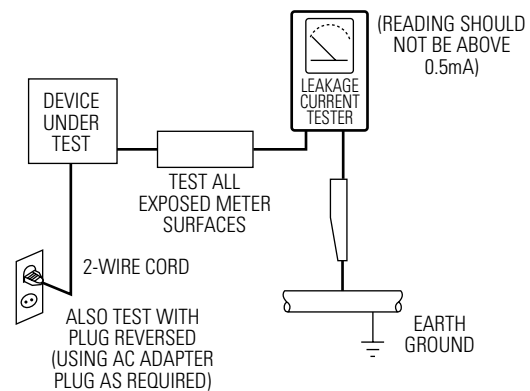

Fig. 1-1 AC Leakage Test
(1) Be sure that no built-in protective devices are defective or have been defeated during servicing. (1) Protective shields are provided to protect both the technician and the customer. Correctly replace all missing protective shields, including any remove for servicing convenience. (2) When reinstalling the chassis and/or other assembly in the cabinet, be sure to put back in place all protective devices, including, but not limited to, nonmetallic control knobs, insulating fish papers, adjustment and compartment covers/shields, and isolation resistor/capacitor networks. Do not operate this instrument or permit it to be operated without all protective devices correctly installed and functioning.
(2) Be sure that there are no cabinet openings through which adults or children might be able to insert their fingers and contact a hazardous voltage. Such openings include, but are not limited to, excessively wide cabinet ventilation slots, and an improperly fitted and/or incorrectly secured cabinet back cover.
(3) Leakage Current Hot Check-With the instrument completely reassembled, plug the AC line cord directly into a 120V AC outlet. (Do not use a isolation transformer during this test.) Use a leakage current tester or a metering system that complies with American National Standards institute (ANSI) C101.1 Leakage Current for Appliances and Underwriters Laboratories (UL) 1270 (40.7). With the instrument's AC switch first in the ON position and then in the OFF position, measure from a known earth ground (metal water pipe, conduit, etc.) to all exposed metal parts of the instrument (antennas, handle brackets, metal cabinets, screwheads, metallic overlays, control shafts, etc.), especially any exposed metal parts that offer an electrical return path to the chassis. Any current measured must not exceed 0.5mA. Reverse the instrument power cord plug in the outlet and repeat the test. See Fig. 1-1.